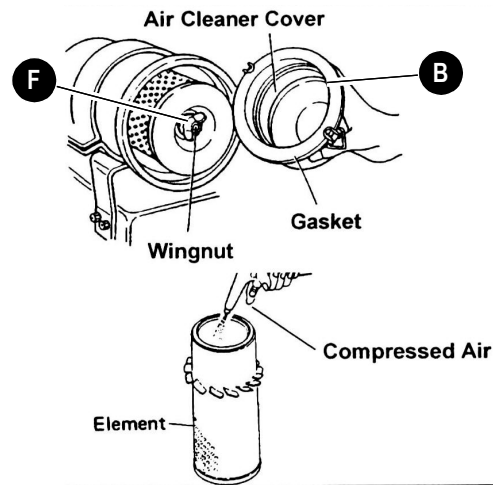

Figure 4-4 Air Filter Service
- a. Unlatch clips securing the air filter cover (B, Figure 4-4). Remove the air filter cover.
- b. Pull the air filter (C) out of the air filter enclosure. It may be necessary to wiggle the filter gently to free it from the enclosure.
- c. If necessary, remove the inner filter (D).
- b. Remove wingnut (F) and remove air cleaner element.
6. Replace both the inner (D) and outer (C) air cleaner elements as necessary: when dirty or when the indicator light comes on. See “Fluid and Filter Changes” on page 4-4.